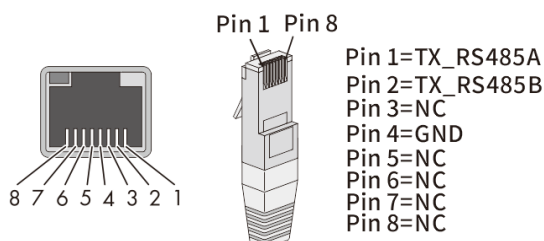

Fig. 30. Cable pin assignment
1. Strip the insulation from the wire and crimp it into the corresponding terminal(see Fig. 30 pursuant to DIN 46228-4)